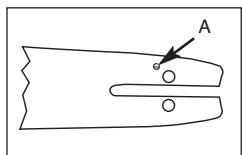

Fig. 3A
To ensure the bar and chain receive oil, ONLY USE THE ORIGINAL STYLE BAR with the oil passage hole (A) as illustrated above. (Fig. 3A)